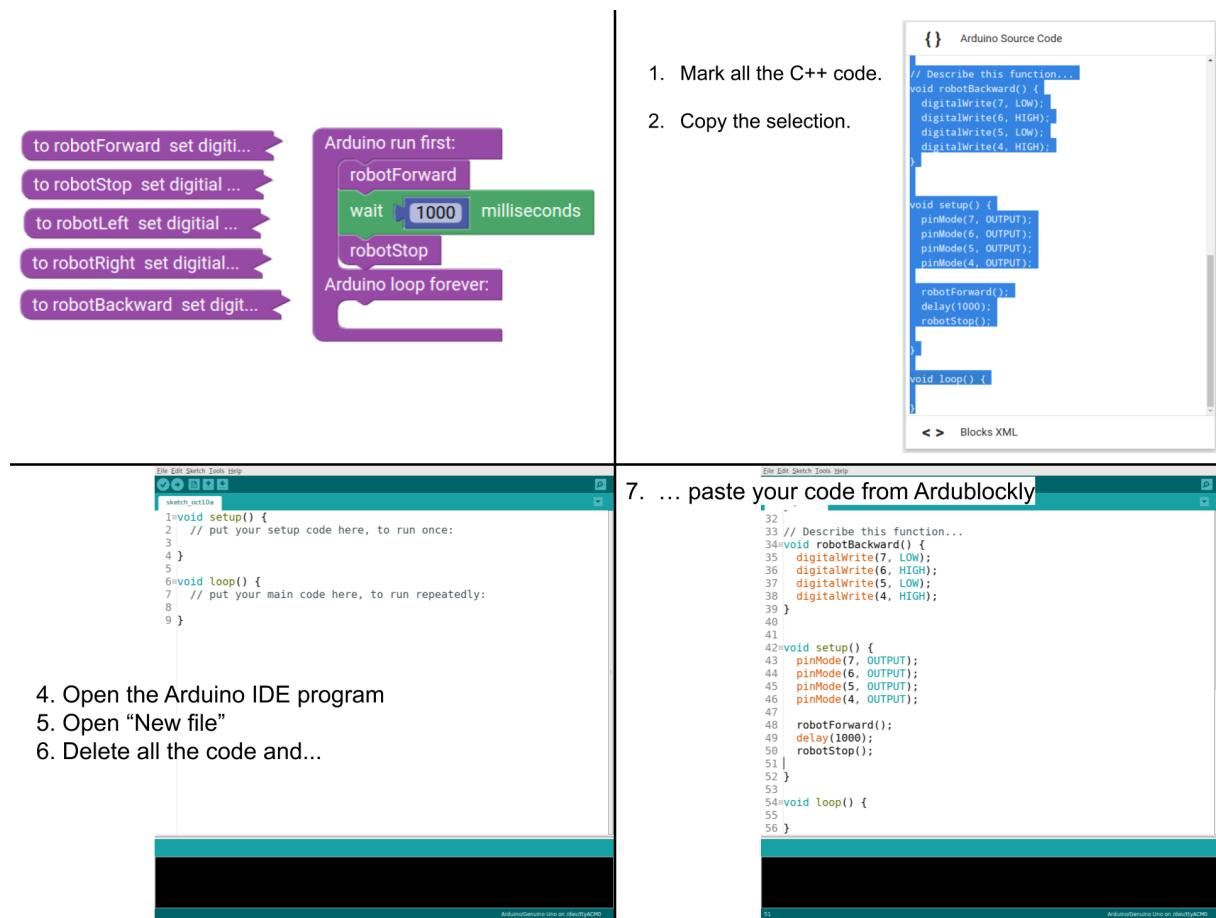

Figure 16.1: How to copy c++ code from Ardublockly?
1. Make a really basic program with easy task like it is shown on fig. 16.1.